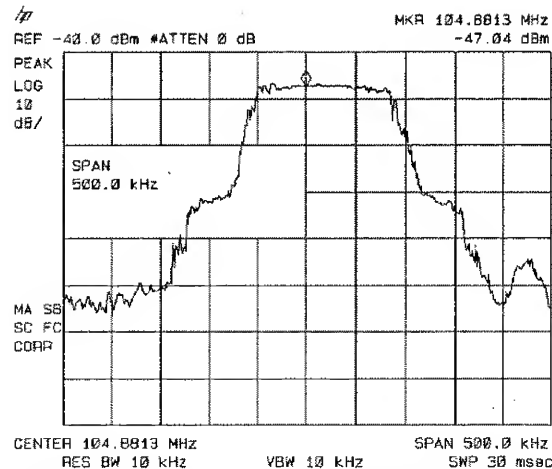

Figure 3-10. Viewing an Unstable Signal Using Max Hold A
- To measure the excursion of the signal, press **(TRACE)** then **MAX HOLD Δ**. As the signal varies, maximum hold maintains the maximum responses of the input signal, as shown in Figure 3-10.